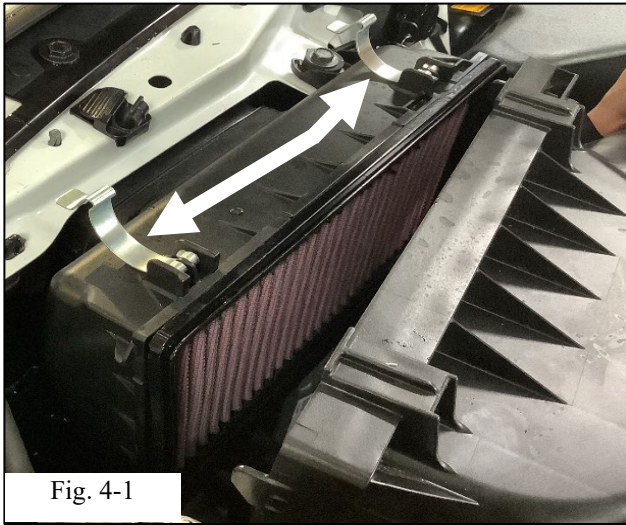

Fig. 4-1
(a) Place the TRD Air Filter in the filter housing (Fig. 4-1).
(b) Replace the filter housing lid (Fig. 4-1).
**⚠** (d) Engage the two filter lid clips (Fig. 4-1).